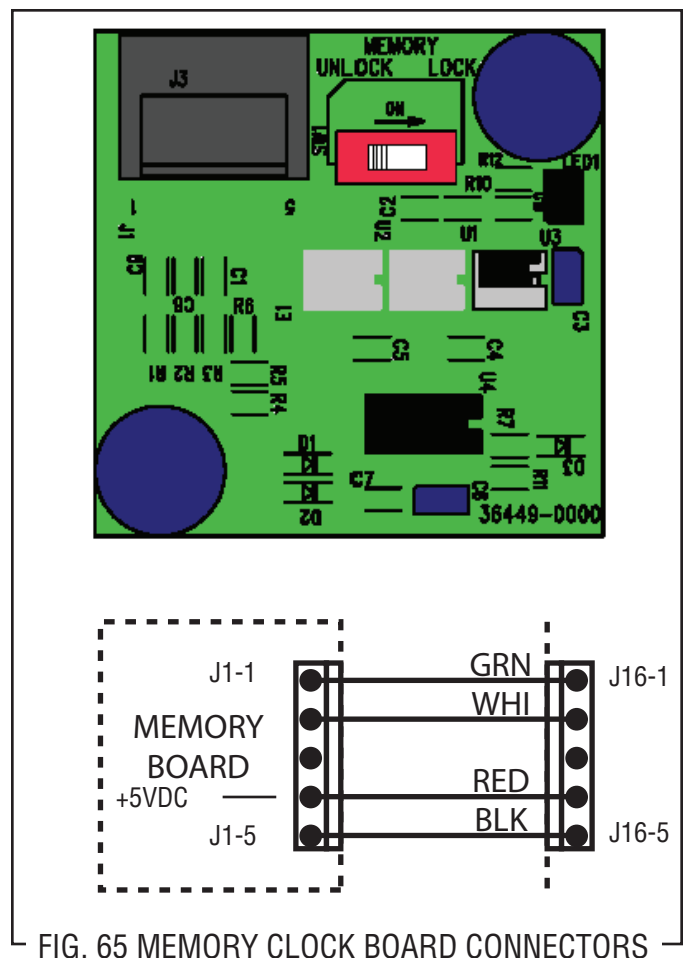

FIG. 65 MEMORY CLOCK BOARD CONNECTORS
9. Refer to Fig. 65 when reconnecting the wires.